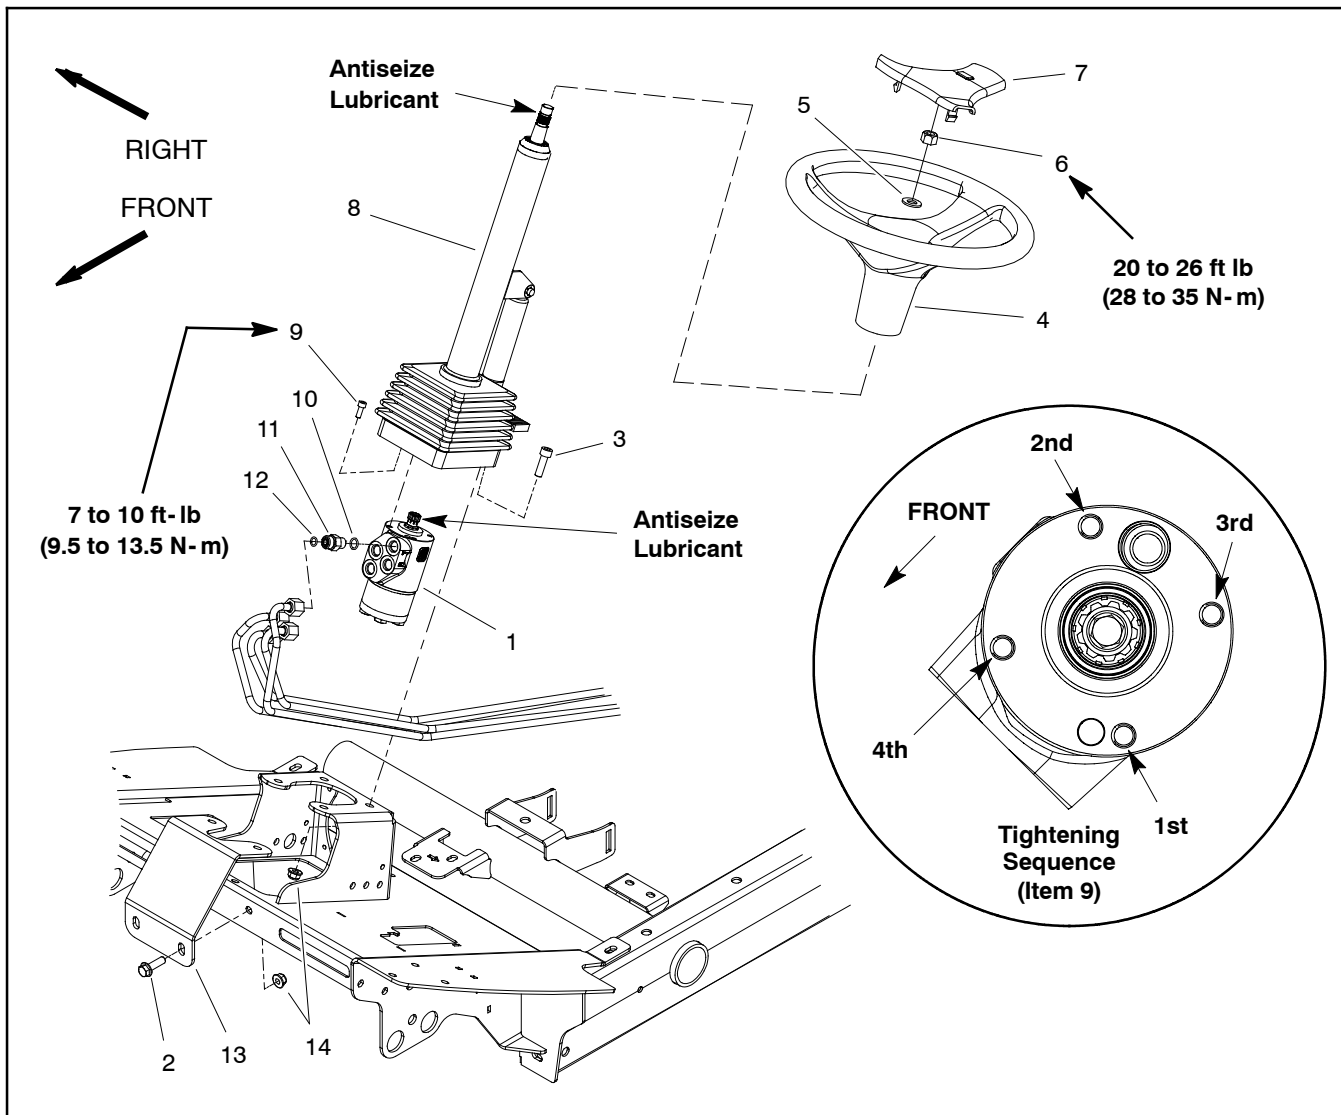
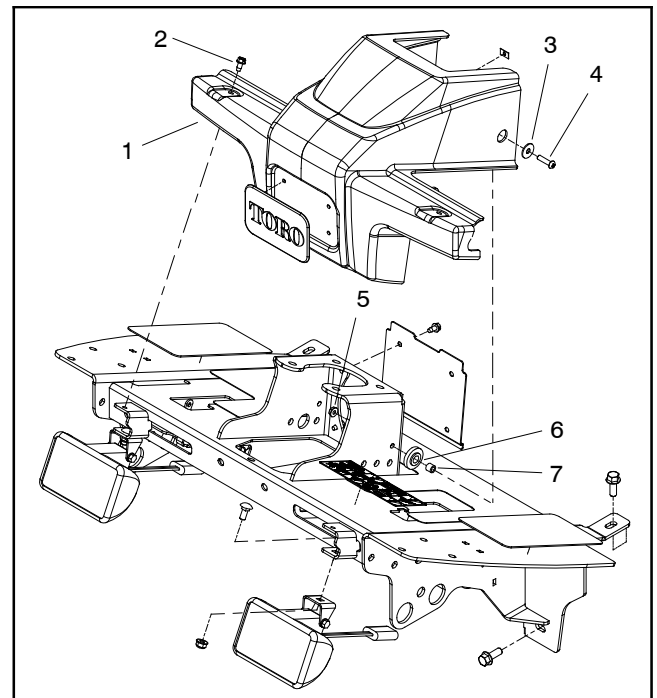
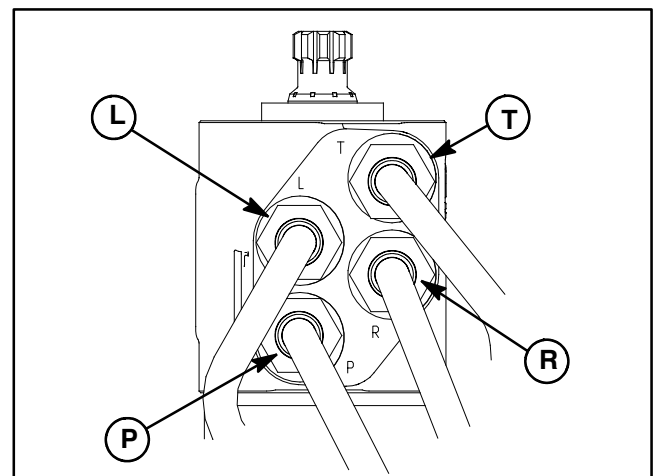

Figure 77
Figure 78
Figure 79
Removal (Fig. 77)
2. Remove fasteners that secure shroud to front of machine (Fig. 78). Remove shroud from machine to allow access to steering control valve. Locate and retrieve two (2) rubber bushings and spacers.
4. Loosen and remove four (4) flange head screws and flange nuts that secure steering column brace (item 13) to machine. Remove brace.
6. Label all hydraulic connections for assembly purposes. Note port designations on steering control valve (Fig. 79). Thoroughly clean hydraulic connections prior to loosening hydraulic lines.
Installation (Fig. 77)
3. Slide steering control valve shaft into steering column universal joint. Position control valve with ports toward front of machine. Secure steering control valve to steering column with four (4) socket head screws. Hand tighten screws in the sequence shown in Figure 77. Then, using the same sequence, torque screws from **7 to 10 ft-lb (9.5 to 13.5 N-m)**.
4. Position steering column assembly to machine. Secure steering column in place with two (2) socket head screws and flange nuts at rear two mounting holes.
7. Position steering column brace (item 13) to machine and secure with four (4) flange head screws and flange nuts.
9. Place rubber bushings and spacers into holes of shroud (Fig. 78). Position shroud in place and secure with removed fasteners.